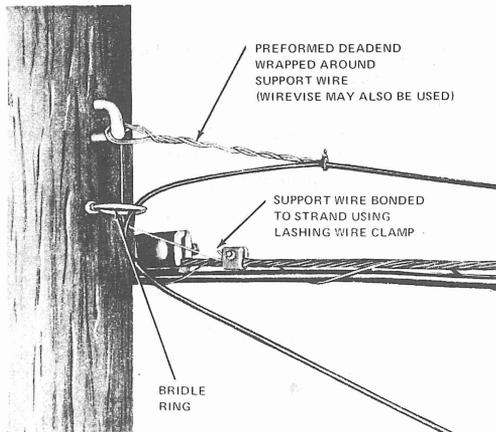

Fig. 34—Connecting Multiple Drop Support Wire to Strand
6.01 Connect support wire to strand as shown in Fig. 34. When fed from buried plant, bond support wire to terminal housing.